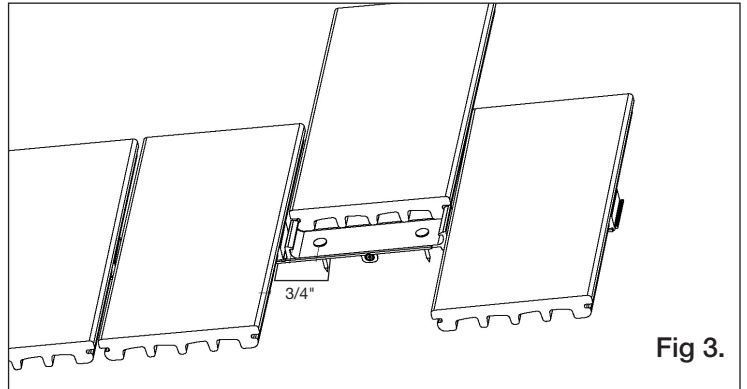

Fig 3.
- b. Locate the first deck board at outer rim joist away from the house or structure and work towards the house. For outer edge board installation (Starter, Solid, or Scalloped profile), do not overhang the board more than 1" (25 mm) widthwise or 2" (51 mm) lengthwise. For a standard 1" (25 mm) overhang, measure and mark a location 22" (559 mm)* from the outer rim joist on the outermost joists that run perpendicular to that joist and snap a chalk line across the entire length of the deck. Position the hidden fastening strips with one edge along chalk line and fasten the first row of strips to each joist with a 1-1/4" (32 mm) stainless steel ring shank roofing nail using 2 nails between each set of clips. (Nails MUST be located within 3/4" (19 mm) of the clip with a total of 8 nails per each four board strip (fig 3). **NOTE:** the side tabs on all of the strips should be orientated on the same side of the joists and flush against the joist to allow for linking subsequent strips together along each row of clips. Trim the overhang of the first row of hidden fastening strips flush with the outer rim joist. Slide the outer deck board securely into the first clip (ensure it is properly engaged in the groove of the board) and screw down the opposite, outer edge of the board at each joist location using color-matched, capped composite deck screws or the Cortex® color-matched plug system* (Solid and Starter profiles only).